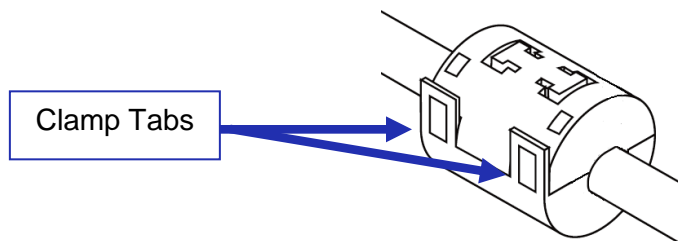

Figure 346: Clamp Tabs
- Push the tabs until they close securely with a snapping sound (Figure 346).